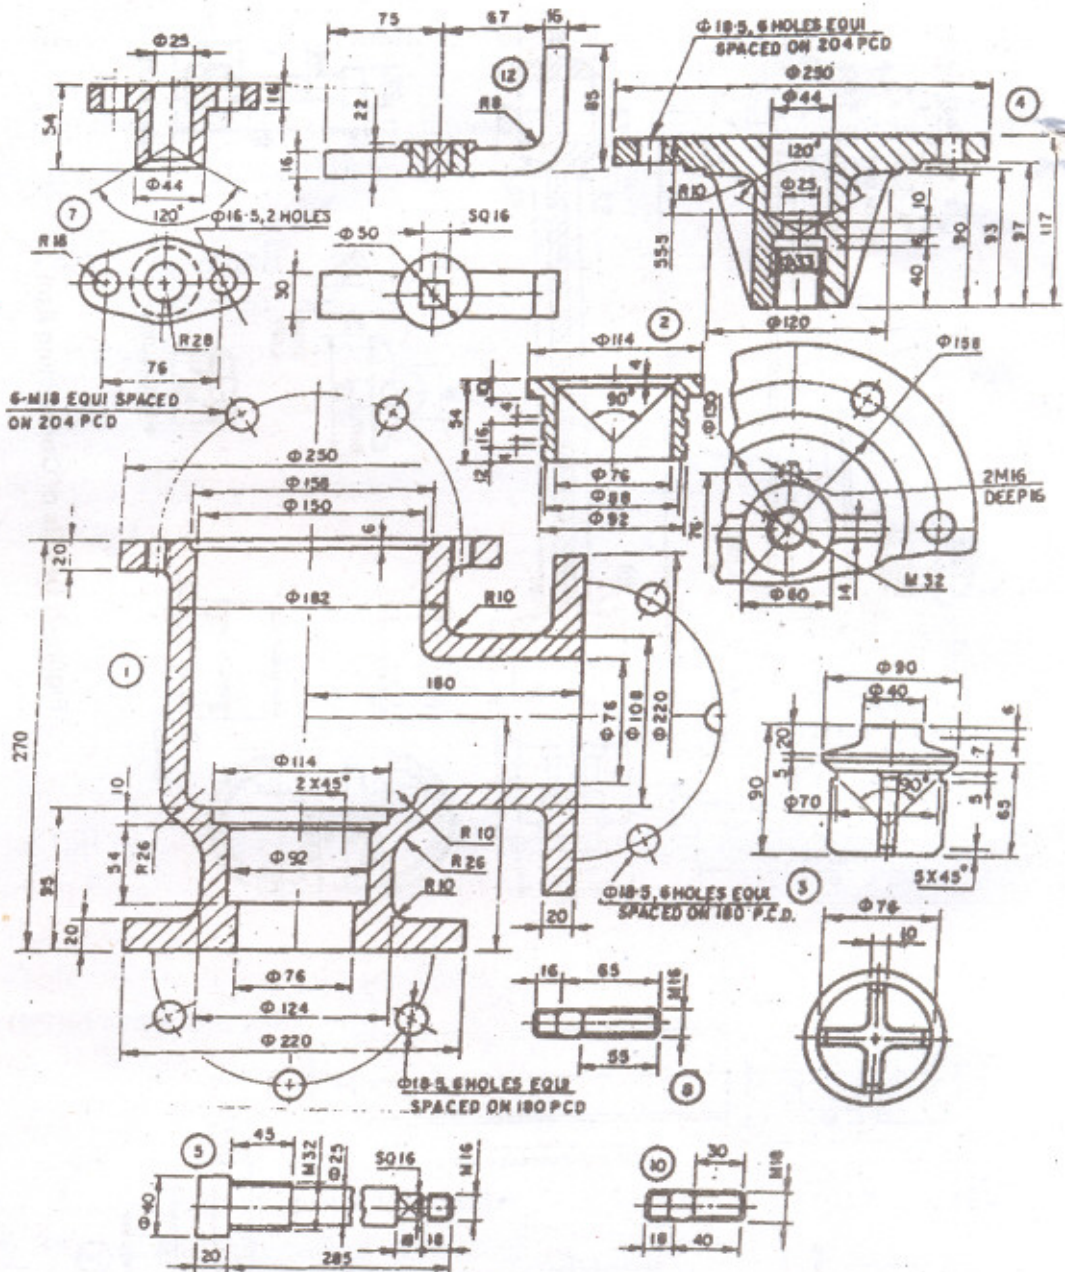

Figure-3: Details of Feed check valve
- Q9) Figure-3 shows the details of a Feed check valve. Assemble all the parts and draw the Elevation-right half in section of the assembly to half scale.